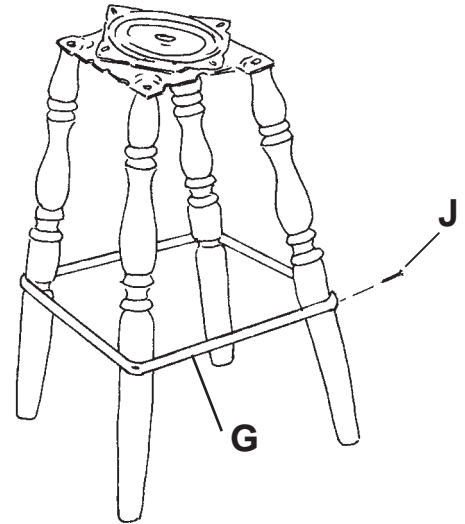

FIG. 6
- 7) Slip the brass plated ring (G) over the top of the leg assembly and down to the ring grooves on the legs, located approximately 9" above the floor. Drill a 1/8" pilot hole through the hole in the ring, approximately 5/8" into each leg. Fasten the ring into place using the #10 x 1 1/2" brass screws (J). See FIGURE 6.